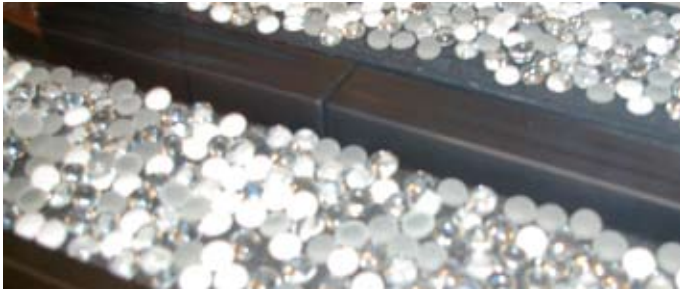

Figure 29. Installation of glass beads .
Once the Trim and glass doors are removed place the marbles randomly across the pan surrounding the burners as shown in Figure 29.
**NOTE: DO NOT** Cover burners with beads or the optional rocks, as shown in Figure 29.